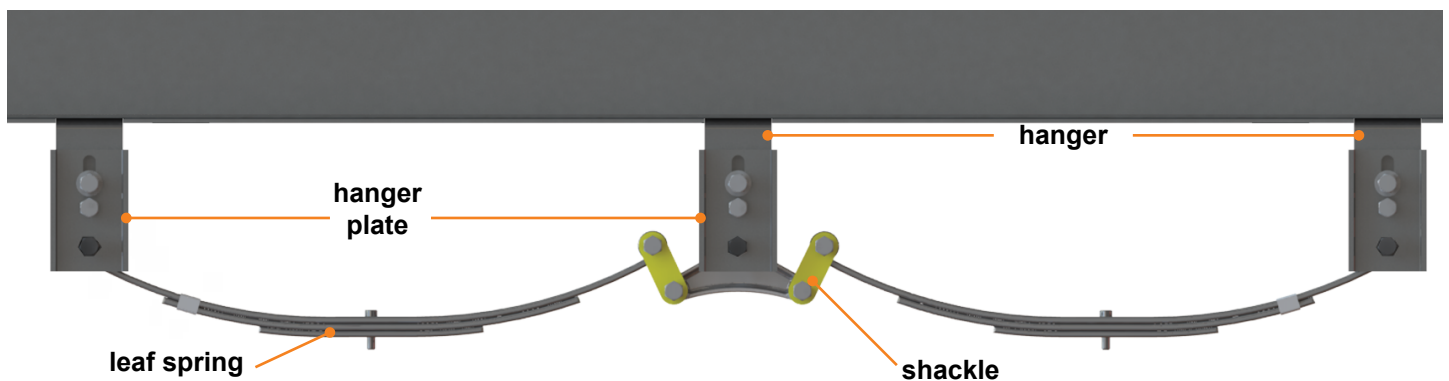

Fig.12
to the ground. Make sure the shackle links are upright and located approximately in the 10 o'clock and 2 o'clock positions (**Fig.12**).
17. Reference **Fig.12** for the completed installation of the LCI Tandem 2.0" Lift Kit.